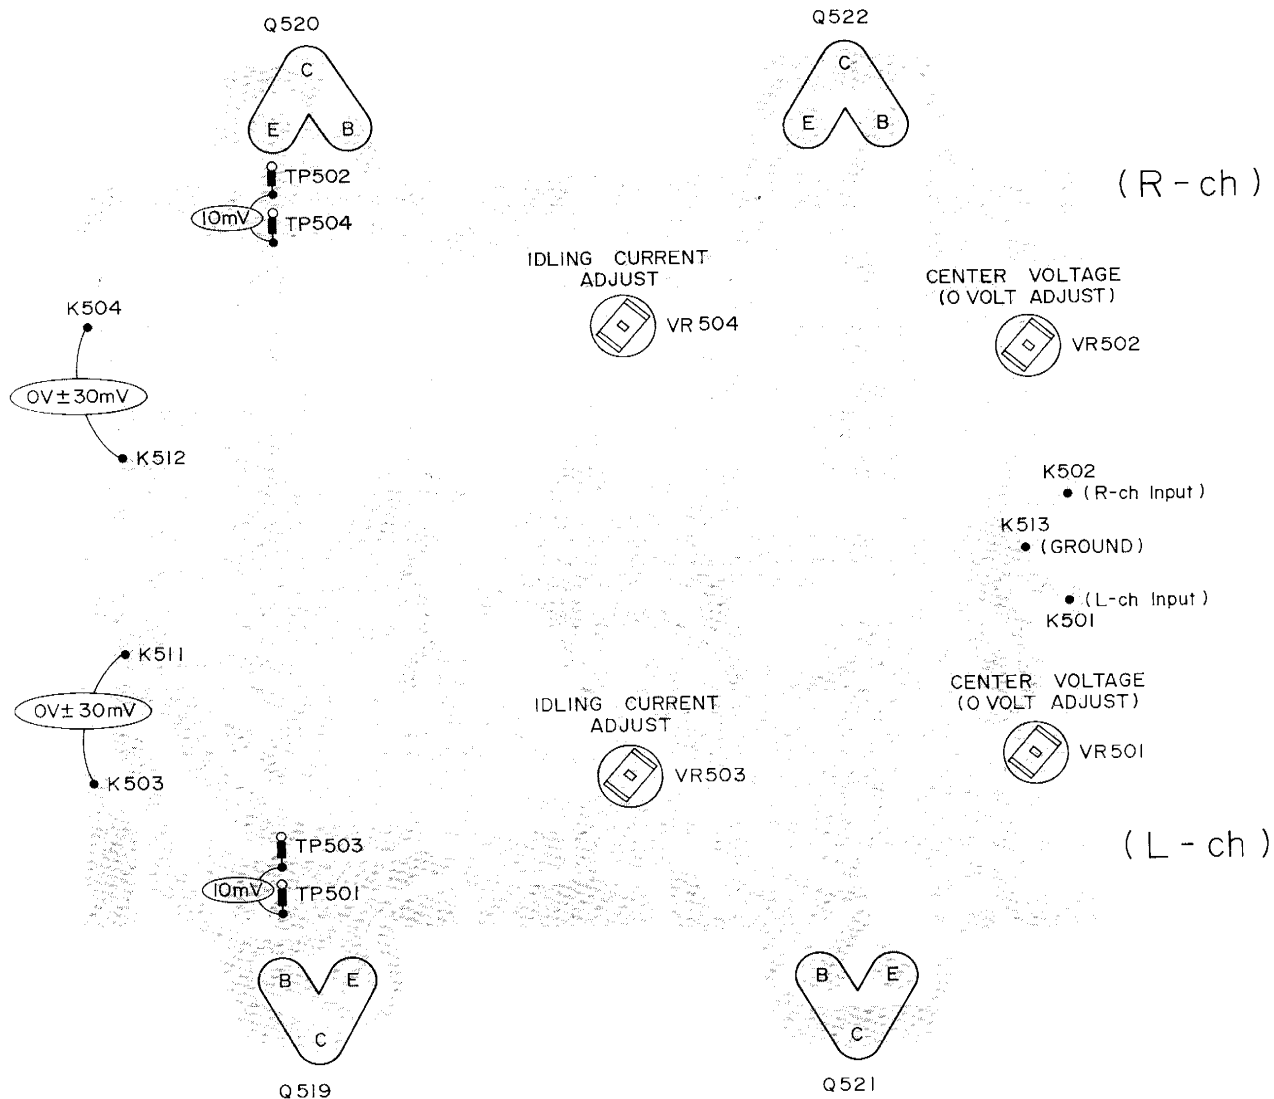

Figure 31-2 ALIGNMENT POINTS OF MAIN AMPLIFIER CIRCUIT
## ADJUSTMENT OF MAIN AMPLIFIER CIRCUIT (See Figure 31-2)
4. Center Voltage Adjustment (See Fig. 31-2)
5. Idling Current Adjustment (See Fig. 31-2)